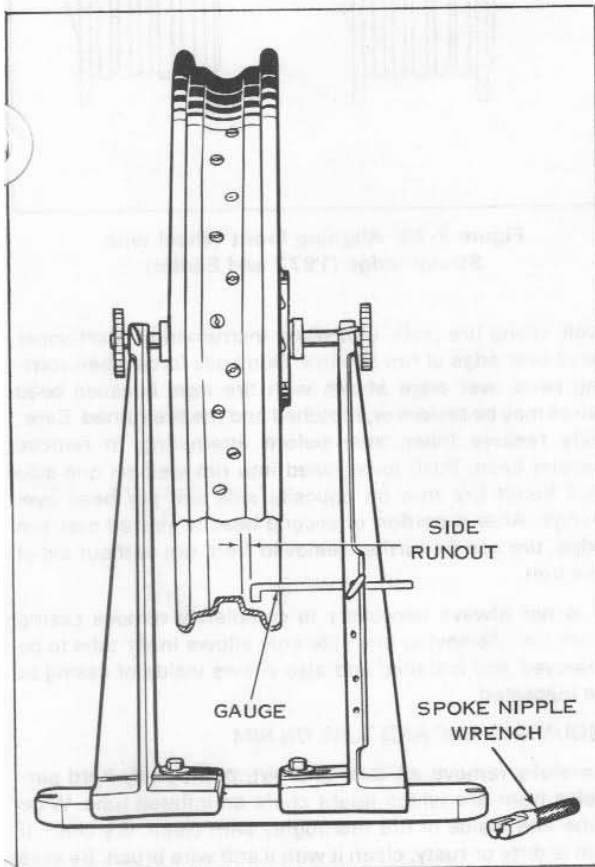
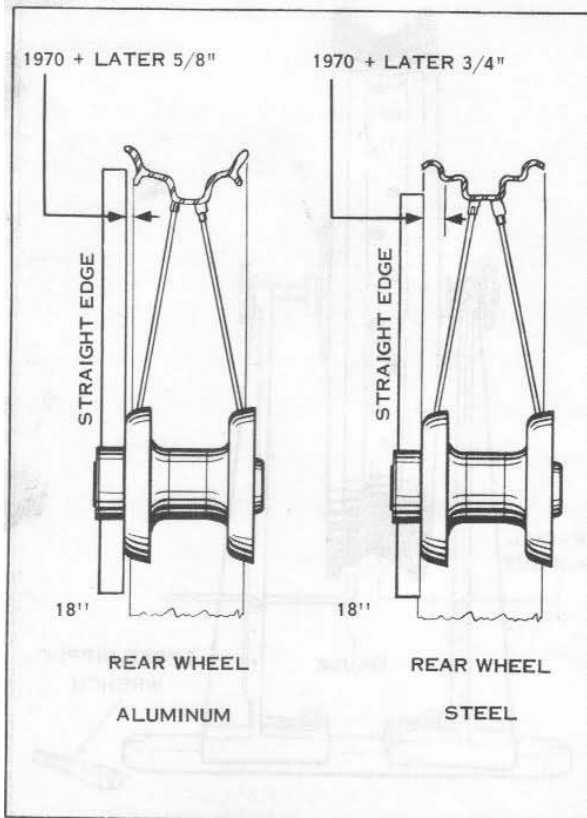

Figure 2-19. Truing Rim Sideways
Figure 2-21. Aligning Rear Wheel with Straightedge
See Figure 2-19 and proceed as follows. Insert arbor in wheel hub and place wheel in Truing Stand, Part No. 95500-29A.
4. Front and Rear Wheel: Check rim for concentricity, centering sideways with hub and for running true sideways (Figures 2-19 and 2-20). Centering rim sideways must be done as one operation. Rim must be properly centered sideways in relation to hub for correct alignment and "tracking" of wheels. Figures 2-21, 2-22 and 2-23 show method of using a straightedge to determine correct sideways centering of wheel rim. If rim is too close to straightedge, loosen all nipples on brake side and tighten all nipples on opposite side same amount. If rim is too far
Adjust truing stand gauge (Figure 2-19), to side of rim well so rim at highest point will strike gauge as wheel is rotated slowly. Loosen nipples at highest point of rim on gauge side, and tighten nipples on opposite side the same number of turns. Repeat this operation until rim runs true sideways. Reverse loosening and tightening of nipples, as explained above, if rim moves too far away from gauge. After each loosening and tightening of spokes, check rim in relation to hub as shown in Figures 2-21 and 2-22. Rim should be trued sideways to within 1/32 in.